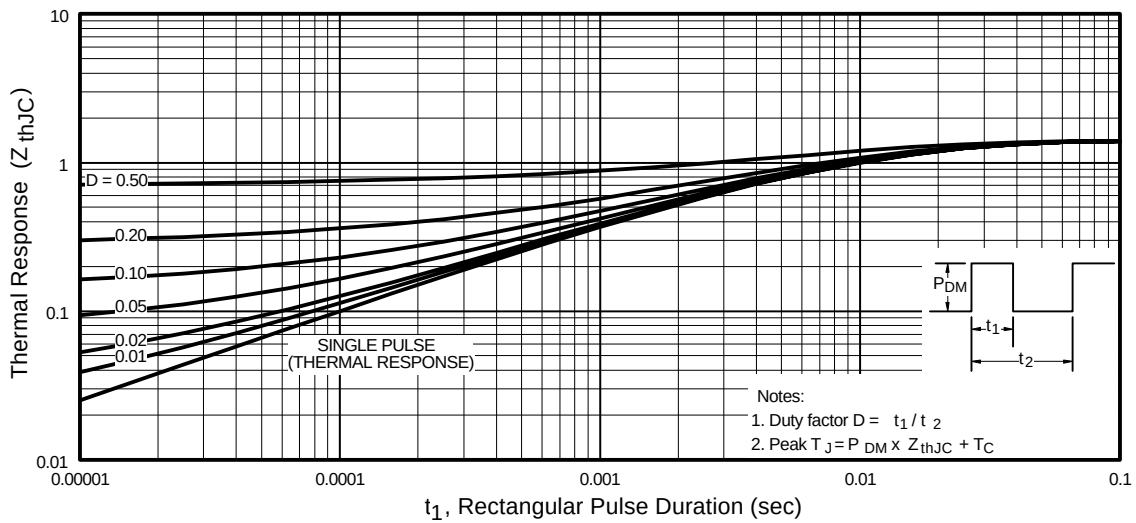

Fig 11. Maximum Effective Transient Thermal Impedance, Junction-to-Case
① Repetitive rating; pulse width limited by max. junction temperature. (See fig. 11)
② $V_{DD} = -25V$, Starting $T_J = 25^\circ\text{C}$, $L = 2.1mH$